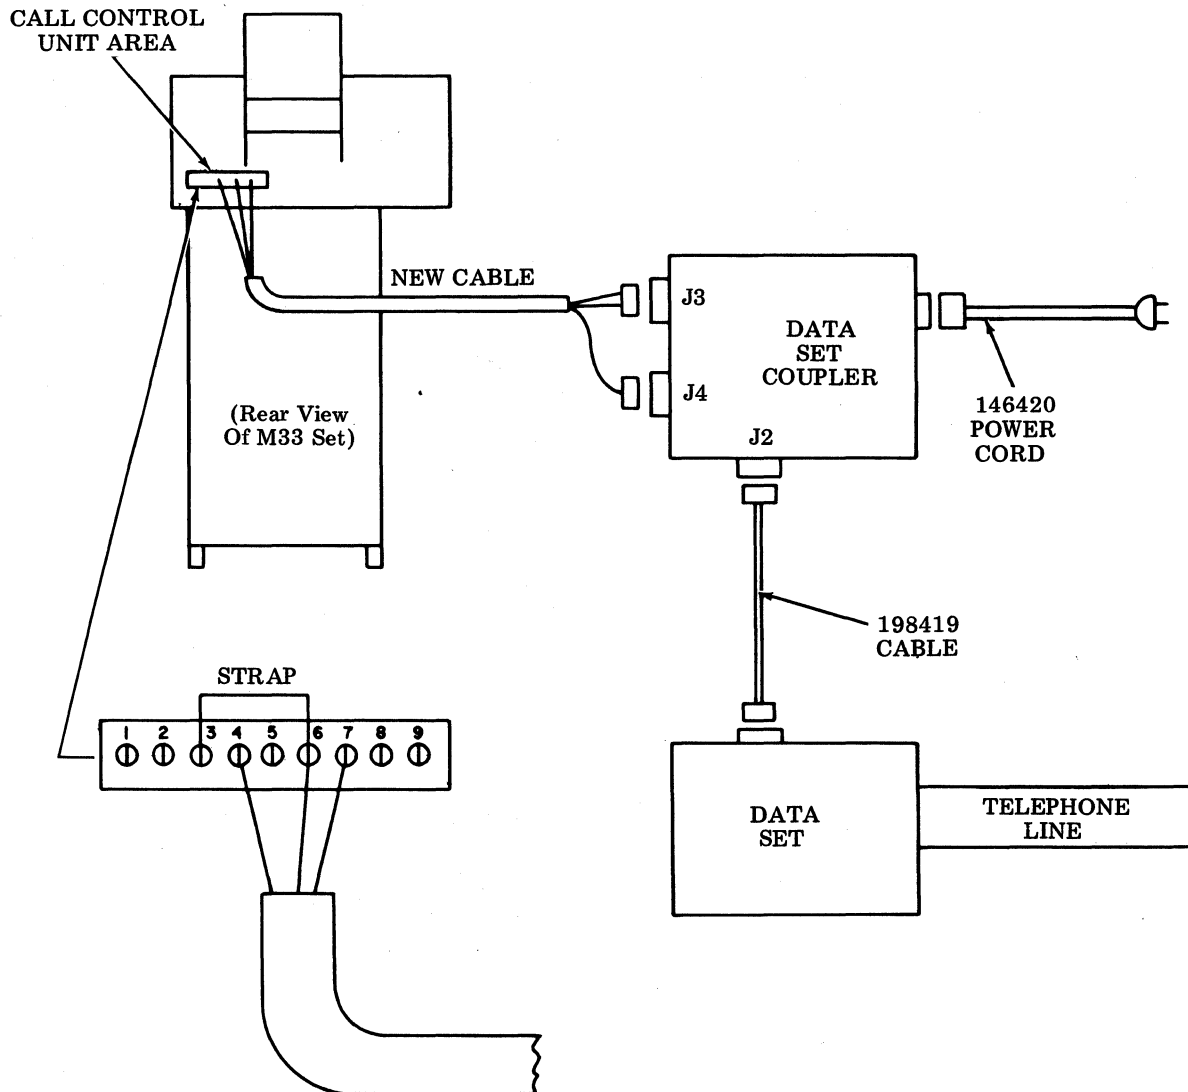

Figure 20 - Pictorial View of Installation of Kit 198420
2.85 The 198420 modification kit provides facilities for the interconnection of TELETYPE terminal equipment and data sets which conform to the standard of the Electronics Industries Association. In accordance with these standards, all data and control leads of the data set carry bi-polar voltage signals. See Figure 20 for a pictorial view of a typical installation.